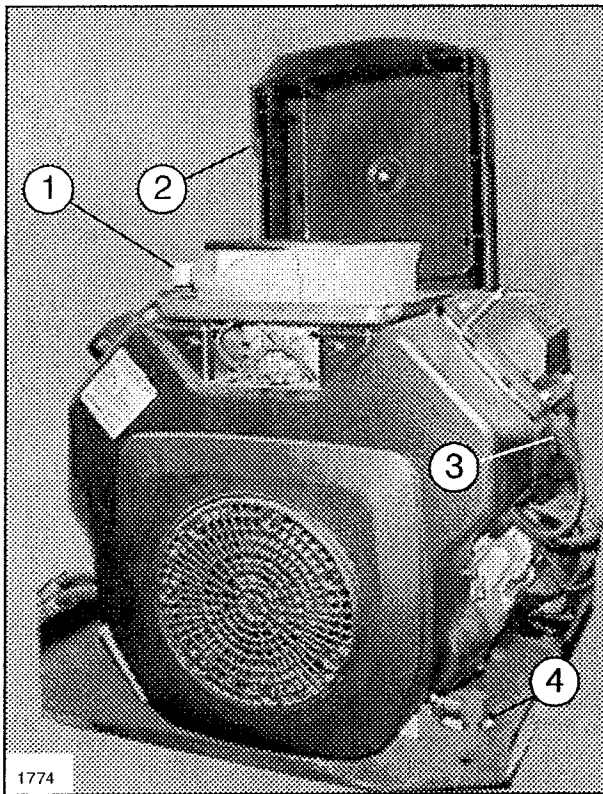
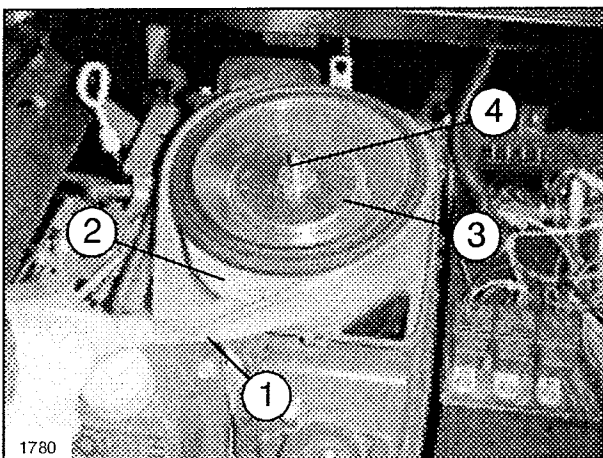
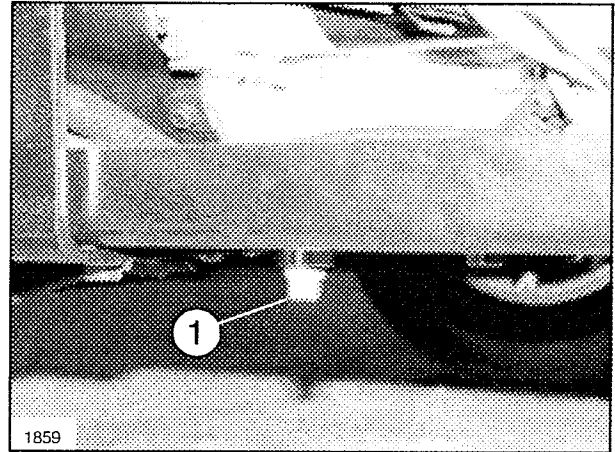

FIG. 12
FIG.13
FIG. 17
1. Remove wing nut and Air Cleaner Cover. (See FIG. 12)
2. Remove the precleaner (FIG. 13) from the paper element and wash in warm water with detergent. Rinse the precleaner thoroughly until all traces of detergent are eliminated. Squeeze out excess water (do not wring). Allow the precleaner to air dry.
1. Remove the Air Cleaner Cover. (See FIG. 12) Remove the element cover nut washer, element cover and paper element with precleaner. (See FIG. 13)
1. Drain the oil from the engine crankcase. For Oil Drain location see FIG. 17, this page, or FIG. 12, page 35.